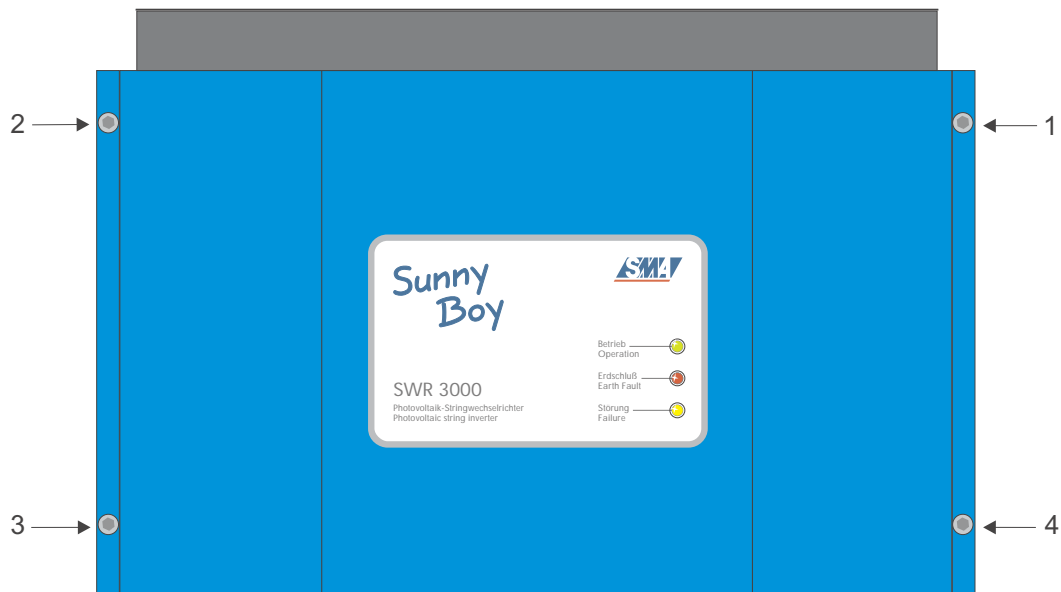

Fig. 5.2: Front view of the Sunny Boy 3000
4. Take off the lid by removing screws 1-4 (see Fig. 5.2 on page 45) on the lid (M5).